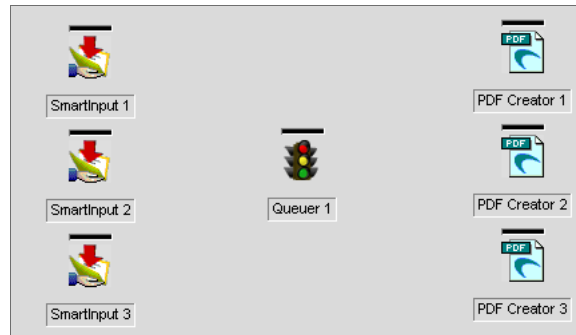

Figure 5.2 Workflow modules arranged on the Design palette
2. Place three SmartInput modules, one Queuer and three PDF Creator modules on the Design palette, arranging them as shown in Figure 5.2. To add a module, select it from the module toolbar and click on the Design palette where you want it placed.